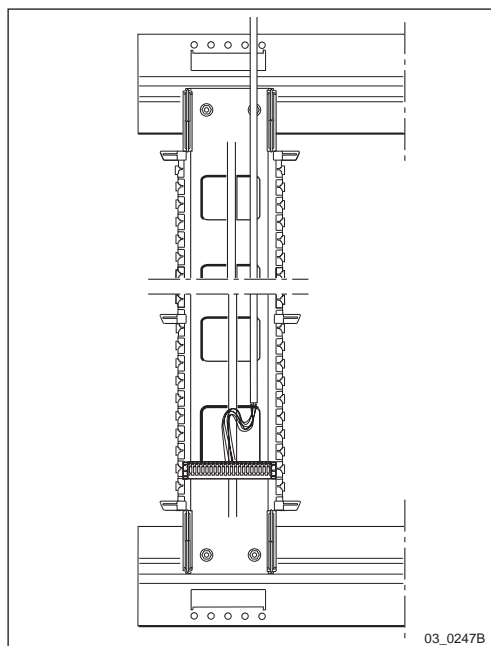

Figure 3
7. Make a loop of the conductors on the rear side of the block and fasten the block by snapping it into the block holder, see figure 3.